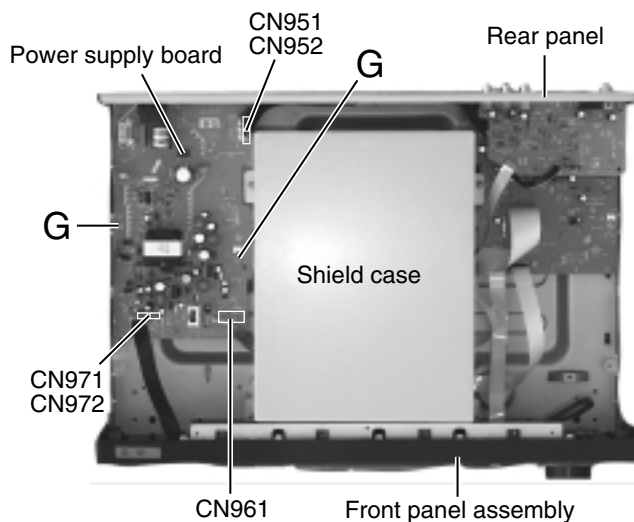

Fig.9
■ Removing the Power supply board (See Fig.9 and 10)